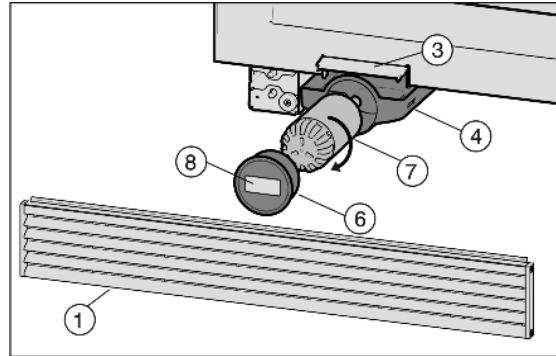

Fig. 77
- ▶ If necessary, remove ventilation grille Fig. 77 (1).
- ▶ Remove the filter cover Fig. 77 (6).
- ▶ Insert water filter Fig. 77 (7) and turn it approximately 100° clockwise as far as it will go.
- ▶ Insert the drawer Fig. 77 (4).
- ▶ Place the cover Fig. 77 (6) on the filter.
- ▶ Write the date of the next filter replacement on the label Fig. 77 (8) supplied and affix it to the filter cover Fig. 77 (6).
- ▶ Fit ventilation grille Fig. 77 (1).